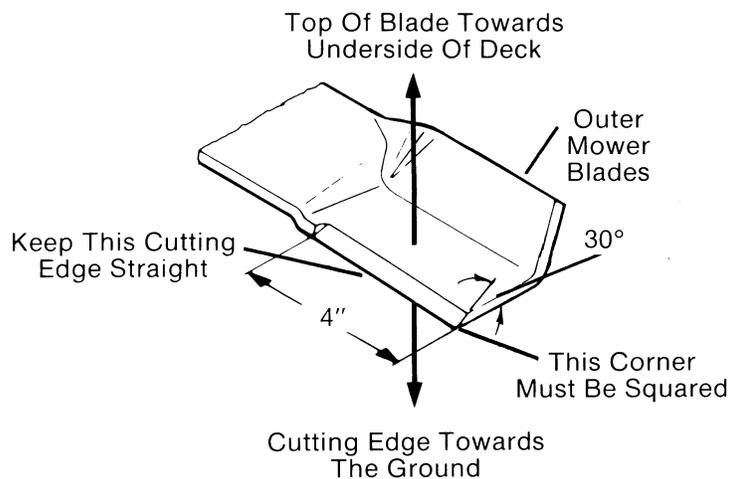

FIG. 10
- C. Sharpen blades following the original blade cutting edge contours. Refer to (Fig. 10) for correct blade sharpening dimensions and instructions.
- a. After balancing, remount blade flush onto spindle assembly. Be sure blade is mounted so cutting edge is towards the ground. (Fig. 10) Replace blade mounting hardware and tighten capscrews to a torque of 30 - 40 ft./lbs.
- b. After balancing, remount blade flush onto spindle assembly. Be sure blade is mounted so cutting edge is towards the ground (Fig. 10). Replace blade mounting hardware, make sure wide side of conical lockwasher is against blade, and tighten cap-screw to a torque of 40 ft./lbs.